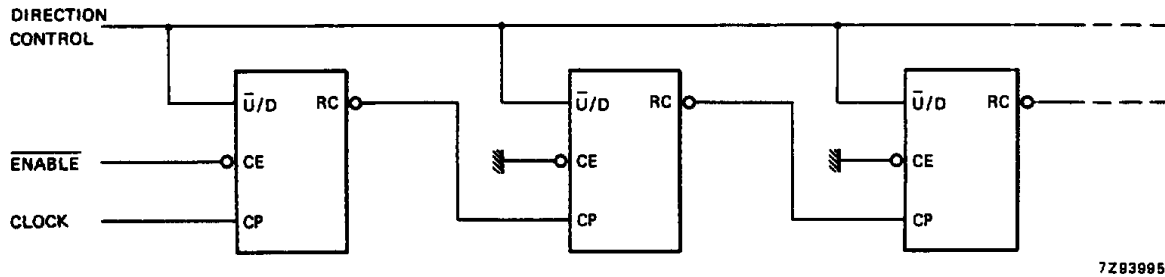
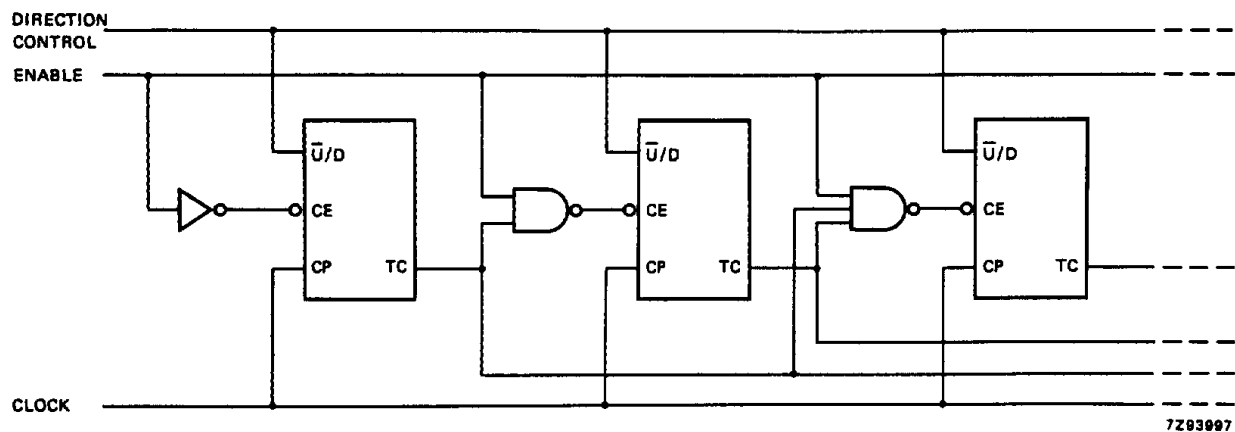

Fig.5 N-stage ripple counter using ripple clock.
Fig.7 Synchronous n-stage counter with parallel gated carry/borrow.
Overflow/underflow indications are provided by two types of outputs, the terminal count (TC) and ripple clock ($\overline{RC}$). The TC output is normally LOW and goes HIGH when a circuit reaches zero in the count-down mode or reaches "15" in the count-up-mode. The TC output will remain HIGH until a state change occurs, either by counting or presetting, or until $\overline{UD}$ is changed. Do not use the TC output as a clock signal because it is subject to decoding spikes. The TC signal is used internally to enable the $\overline{RC}$ output. When TC is HIGH and $\overline{CE}$ is LOW, the $\overline{RC}$ output follows the clock pulse (CP). This feature simplifies the design of multistage counters as shown in Figs 5 and 6.
In Fig.5, each $\overline{RC}$ output is used as the clock input to the next higher stage. It is only necessary to inhibit the first stage to prevent counting in all stages, since a HIGH on $\overline{CE}$ inhibits the $\overline{RC}$ output pulse as indicated in the function table. The timing skew between state changes in the first and last stages is represented by the cumulative delay of the clock as it ripples through the preceding stages. This can be a disadvantage of this configuration in some applications.
In Fig.7, the configuration shown avoids ripple delays and their associated restrictions. Combining the TC signals from all the preceding stages forms the $\overline{CE}$ input for a given stage. An enable must be included in each carry gate in order to inhibit counting. The TC output of a given stage is not affected by its own $\overline{CE}$ signal therefore the simple inhibit scheme of Figs 5 and 6 does not apply.